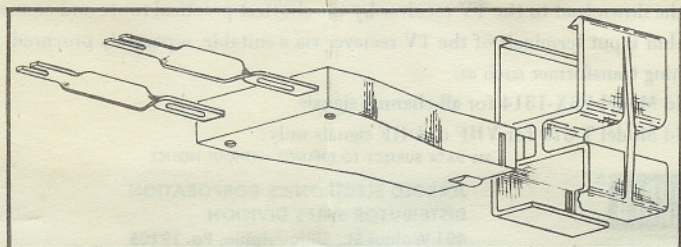

FIG. 1 MODEL MUV-382 WITH MOUNTING CLIP
1. Push the transformer housing into the mounting clip until they are locked together. See Figure 1.